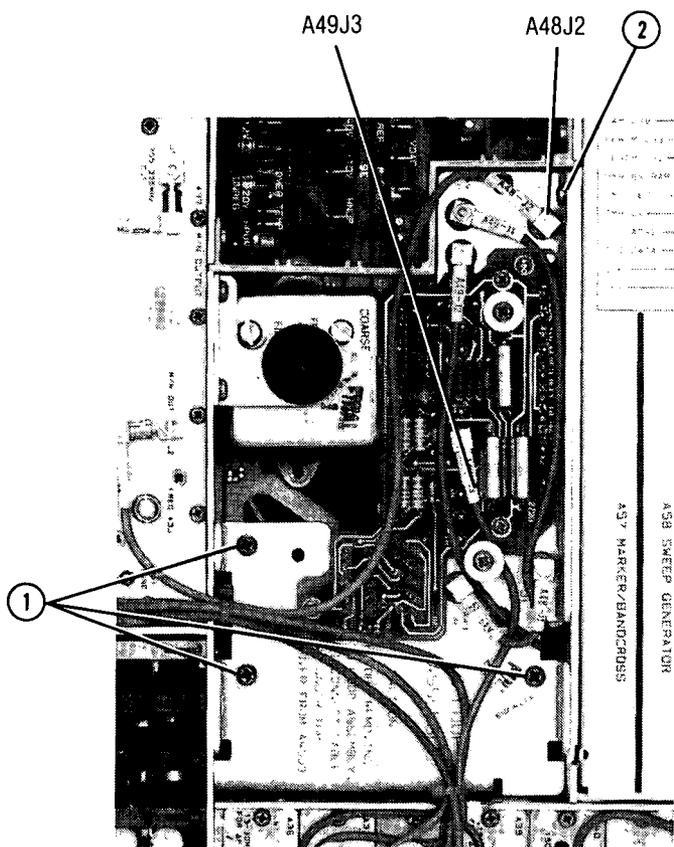

Figure D-9. YO Loop Removal
3. Turn the instrument upside-down. Refer to Figure D-9, YO Loop Removal. Remove the cables going to A49J2 and A49J3. Remove the three screws shown as item 1. Remove the screw shown as item 2. Item 1 screws are different from the item 2 screws, keep them separate.